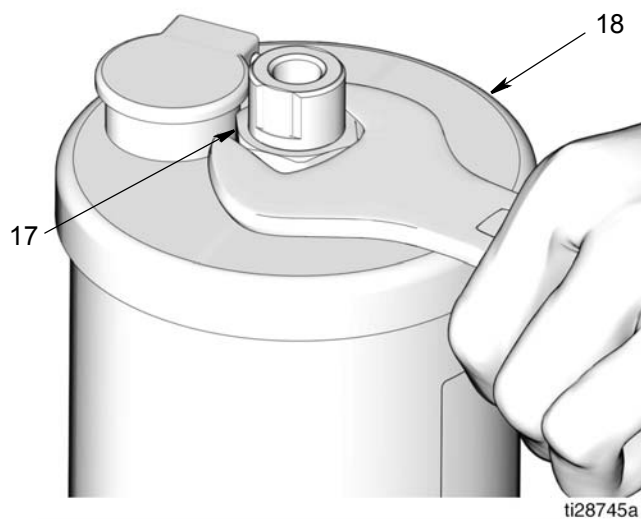

FIG. 14
9. Reservoir Gaskets (10)
Use a wrench to loosen and remove nut (17) from reservoir cover (18) (FIG. 14).